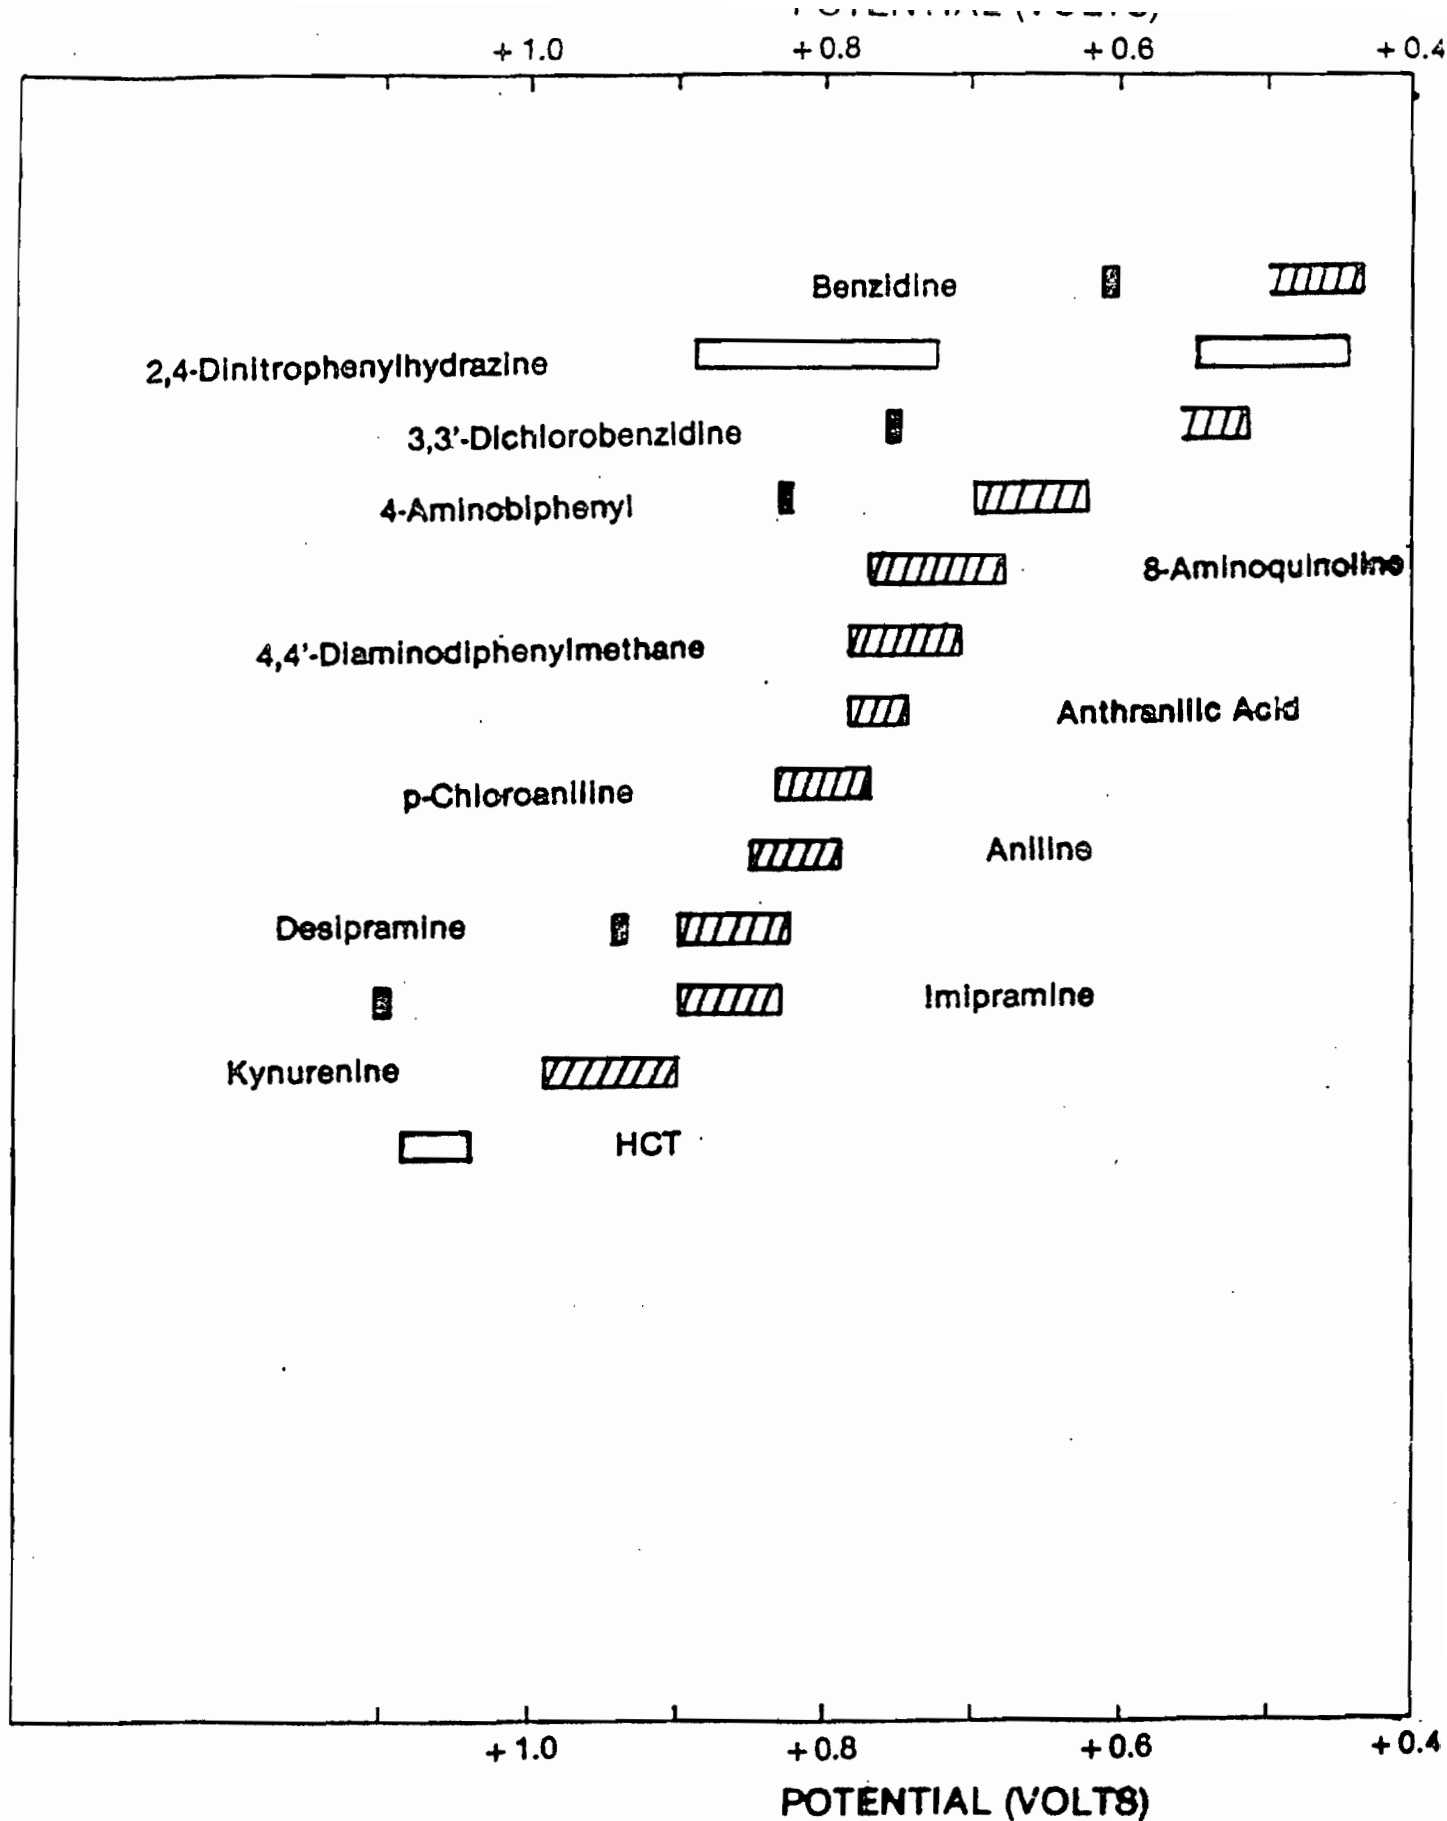

Figure 2 Oxidative Cyclic Voltammetric Data for Selected Aromatic Amines.
- Figure 2 Oxidative Cyclic Voltammetric Data for Selected Aromatic Amines.